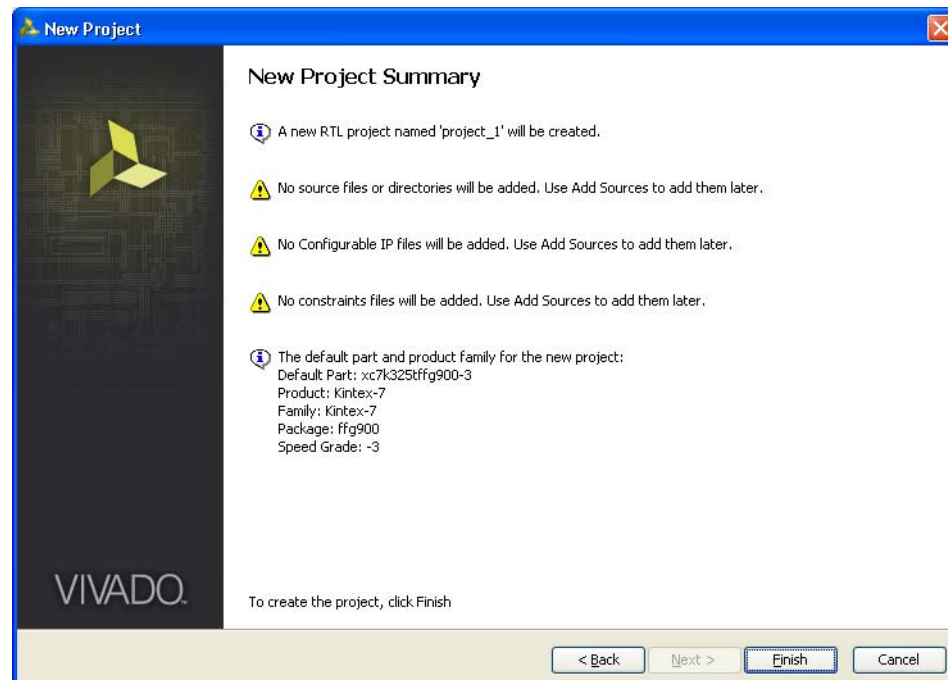

Figure 5-11: New Project Summary
- Click **Next** to open the **New Project Summary** page (Figure 5-11). This includes the summary of selected project details.